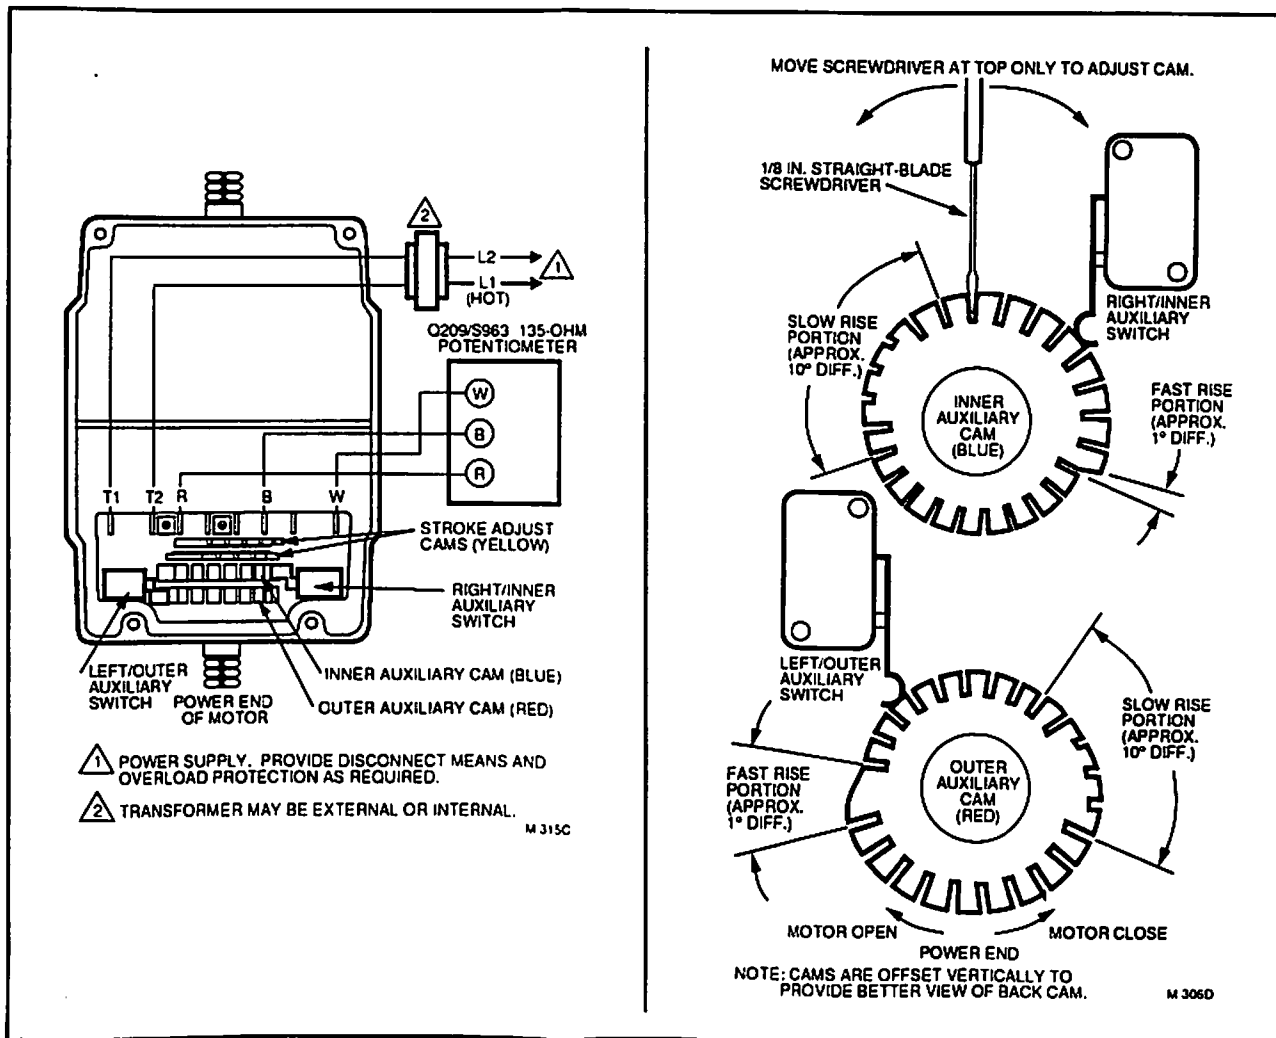

FIG. 9—AUXILIARY SWITCH ADJUSTMENT SETUP.
bSee Fig. 9
### AUXILIARY SWITCH SETTING PROCEDURE (Fig. 9)
2. Disconnect controller from motor and connect 135 ohm manual potentiometer with R-W-B terminals on pot connected to corresponding terminals on motor (Fig. 9).